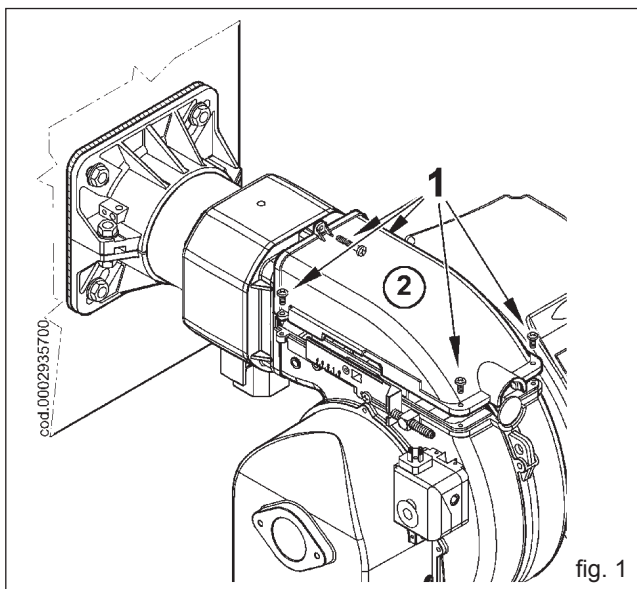

fig. 1
- 1) Loosen the screws 1 and remove the lid 2 (figure 1).
- 1) Following the instructions detailed in the "Maintenance" paragraph, extract the mixer assembly and remove the screw (1) which connect the unit's forward movement rod (2) to the gas delivery pipe (3).
- 2) Turn the bend coupling through 180° (4) and the mixer (6), in such a way that the inlet gas is turned upwards (figure 1). Again fix the mixer and the unit's forward movement rod to the gas delivery pipe.